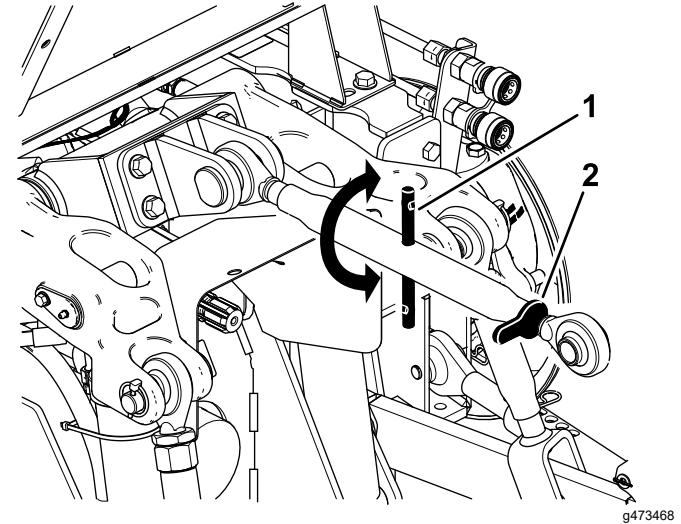

Figure 22
1. Loosen the jam nut on the top link (Figure 22).
3. Tighten the jam nut (Figure 22).